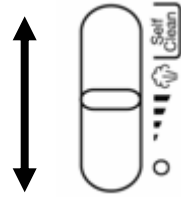

Fig. 3
- Slide the variable steam control to the right to increase the amount of steam. (Fig. 3) When using extra steam, the iron uses more water and it may be necessary to fill the tank more often. See page 4 for refilling the iron with water.